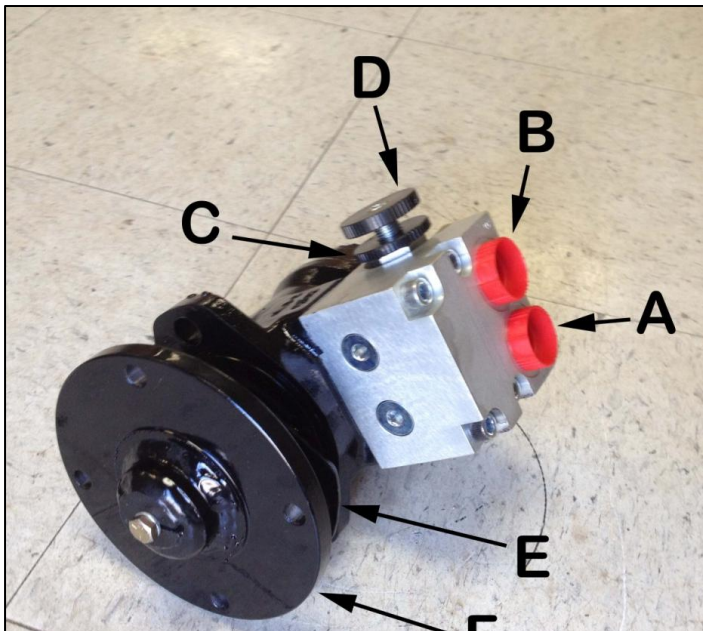

FIGURE 14 SAUER MOTOR WITH SPEED CONTROL
9. Install the center black plastic cover over center bearings. Install hydraulic hoses as per Figure 13 JD 9XX Right hand hydraulic motor drive and Figure 14 Sauer Motor with speed control. The longer hose #118823 (D), the pressure line, from the E port of the canvas motor port to the forward or B port of the Ag Shield motor. The oil will take the long way around the Ag Shield motor- return out port A via hose 118824 (F), the short return hose that connects to the former canvas motor return hose at C.